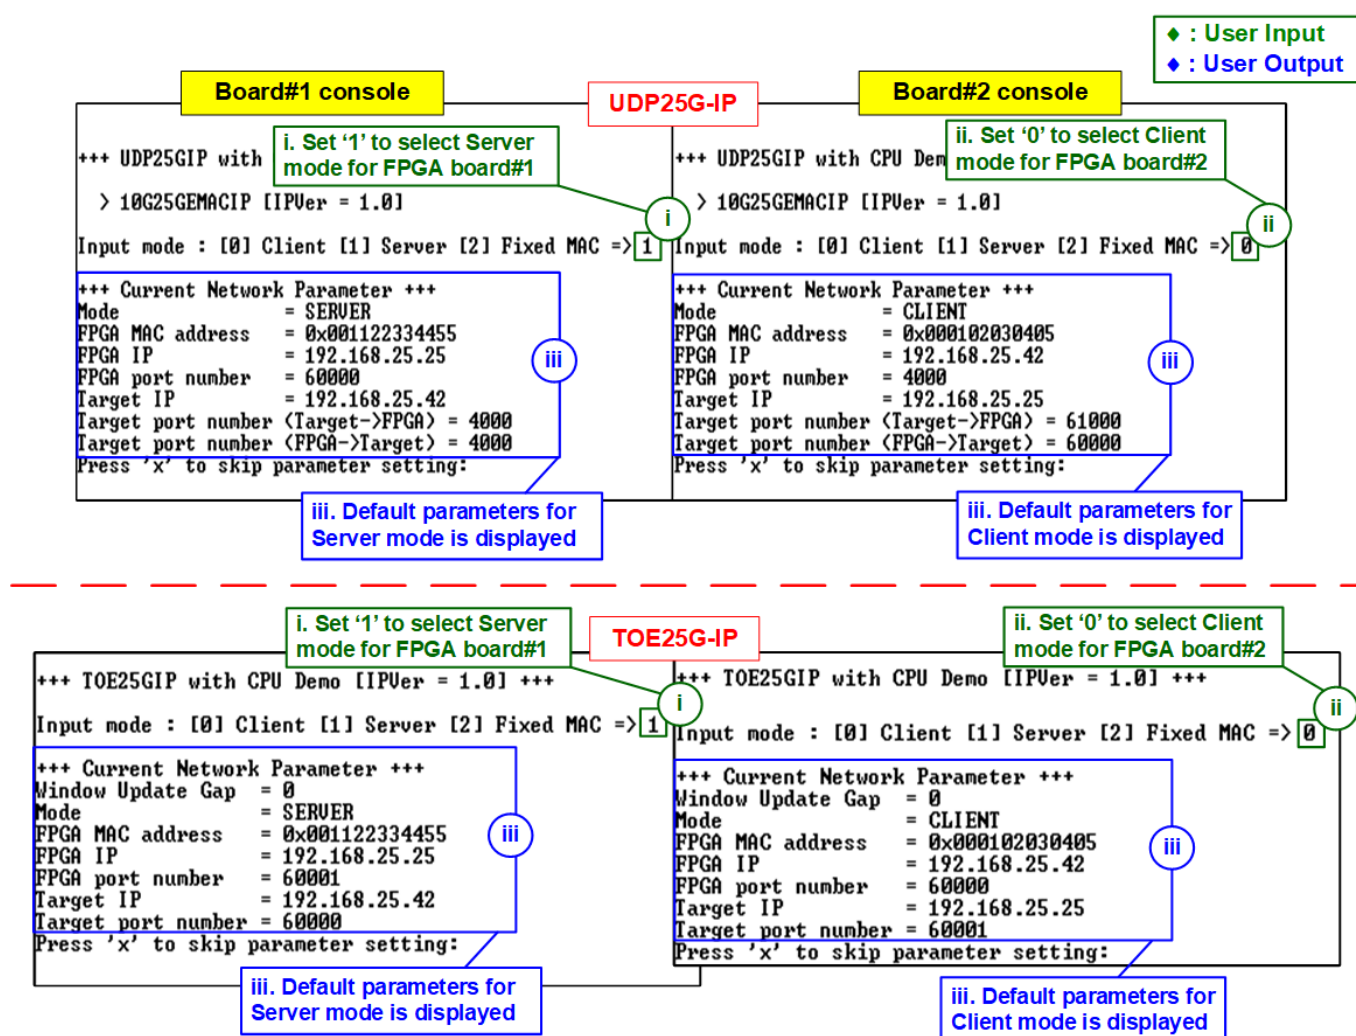

Figure 3-4 Input mode
- iii) The default parameters for the selected mode will be displayed on the console, as shown in Figure 3-4.